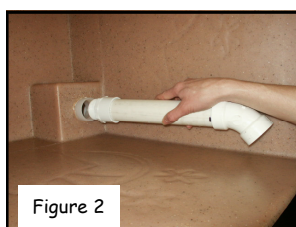

Figure 2
2. **Install Internal Overflow.** (figure 2) Position Main Body onto its bottom. This will expose the open top and the white 1-1/2 female pipe-threaded fitting located near the bottom. From the inside, carefully thread the male pipe-threaded end of the 1-1/2" PVC Internal Overflow into the white 1-1/2 female threaded fitting. DO NOT CROSS-THREAD. Hand tighten only to a snug fit with the 45° Elbow pointing inward.